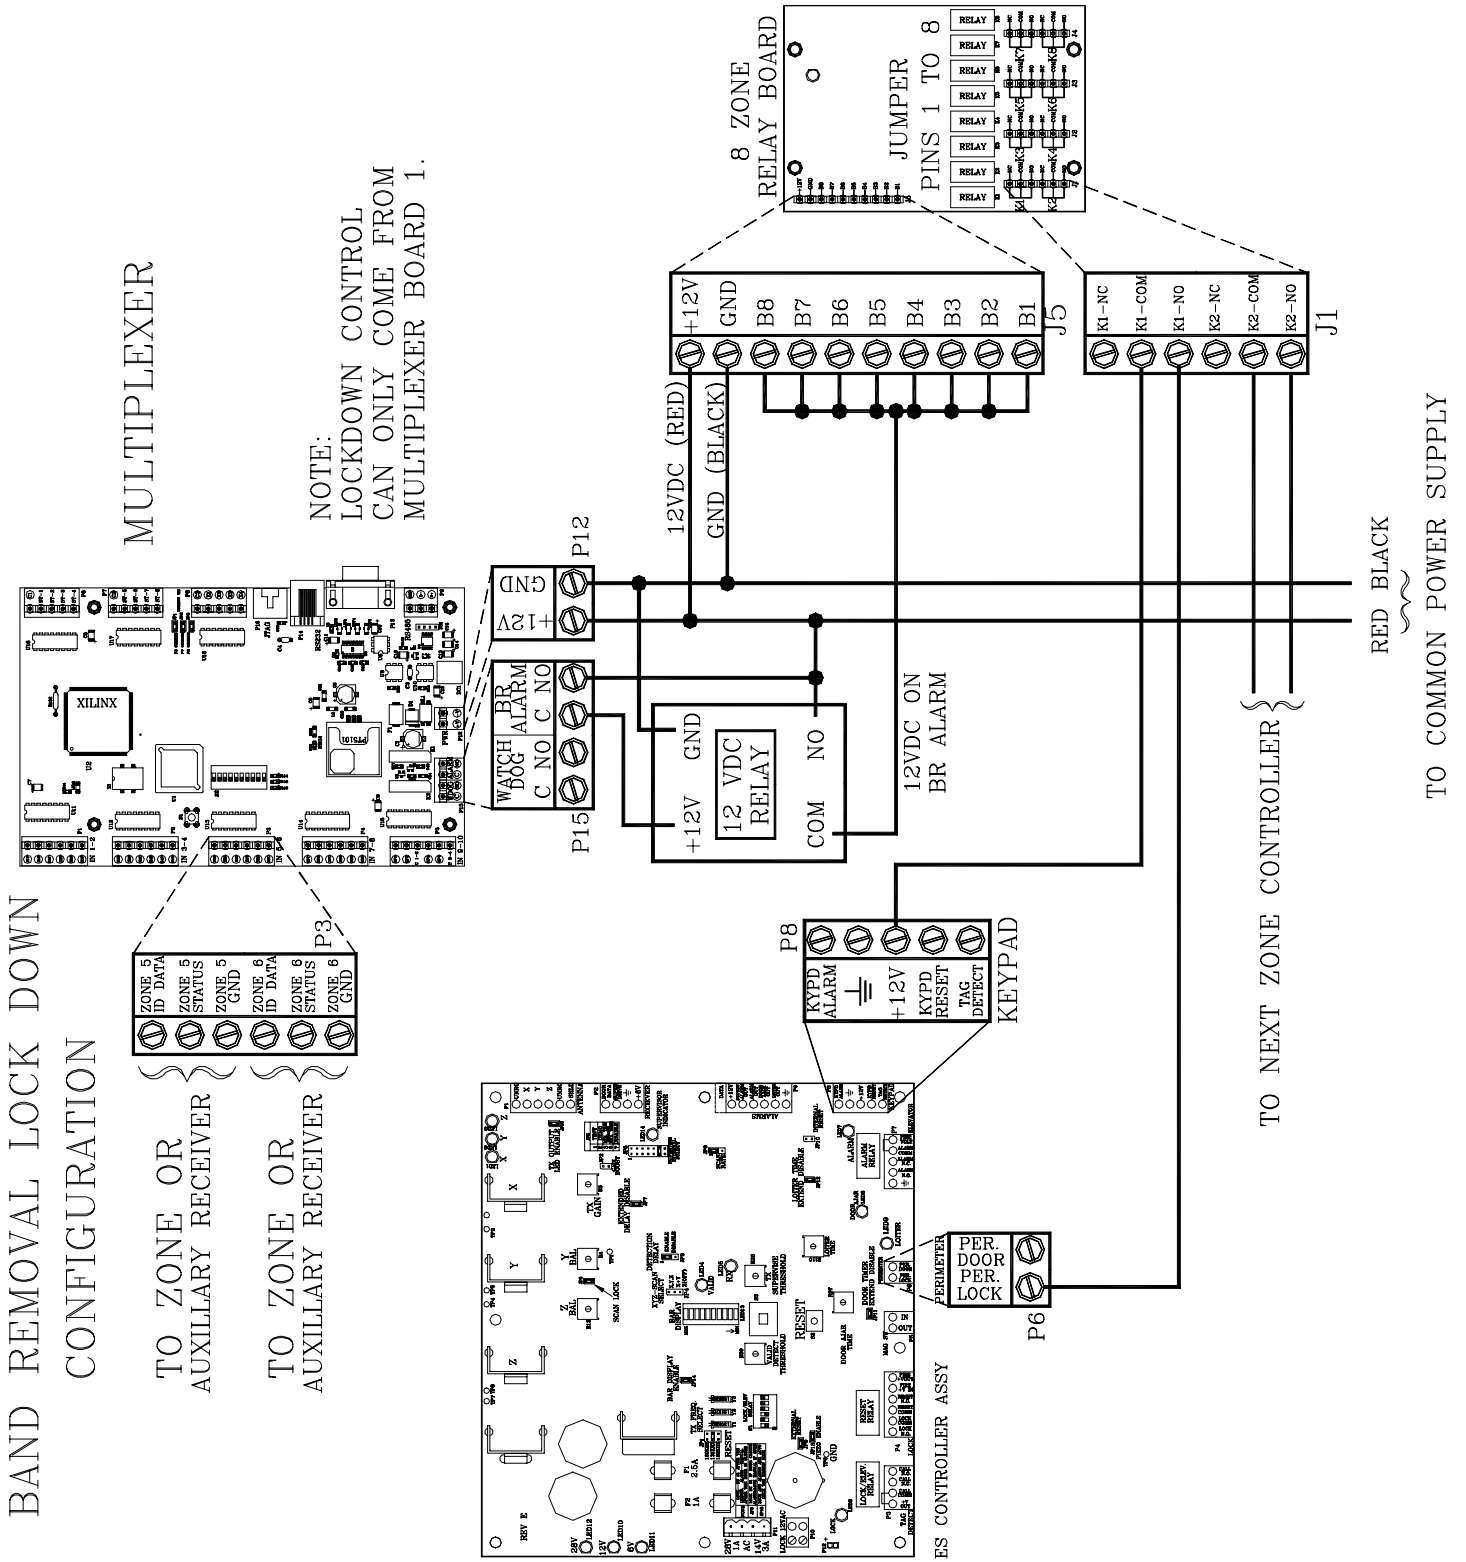

Figure 21.1 Wiring Band Removal Lockdown
To wire the Controller for Band Removal Lockdown, refer to Figure 21.1 and use the following instructions:
6. For each Controller (Lock) you must pick a set of contacts to work with on the Relay Board. The example in Figure 21.1 shows Relay K1 being used: